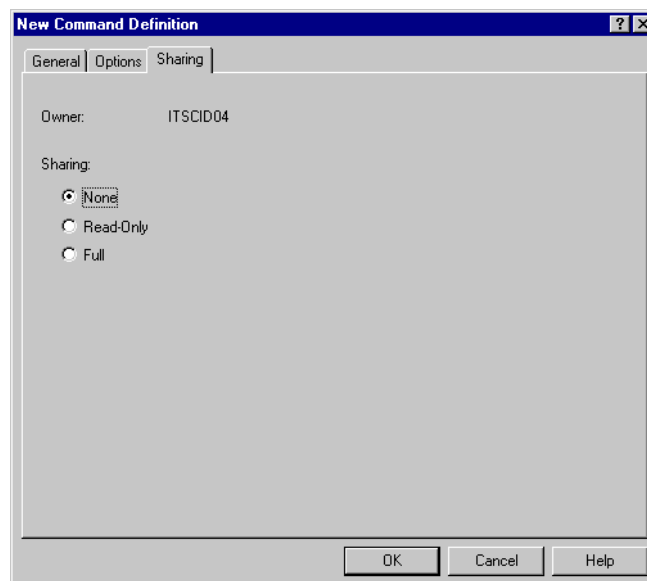

Figure 22. Sharing tab for New Command Definition
6. Click the **Sharing** tab to specify whether you want to share this command definition with other users. As shown in Figure 22, there are three sharing options.